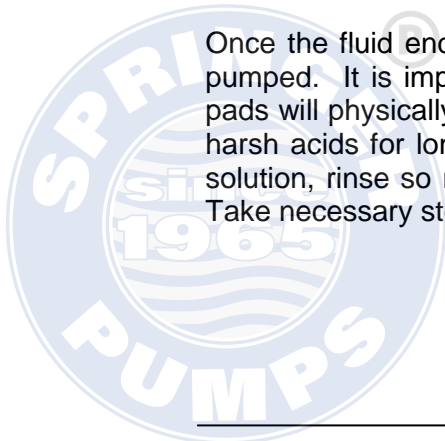

**Figure 22: Annual Maintenance Checks**
- Check the gear case bearings by measuring the shaft's radial movement with a dial indicator (Figure 22, A). If the movement is greater than or equal to the rotor to body clearance found on page 29 (Table 8) the bearings should be replaced.
- Remove the gear casing cover (See page 21 for disassembly information) and inspect the gears for wear and damage (Figure 22, B). Also check for backlash and looseness.
- Inspect the rotors for signs of wear and stress cracks around the areas defined in Figure 22, C. Replace, if necessary.